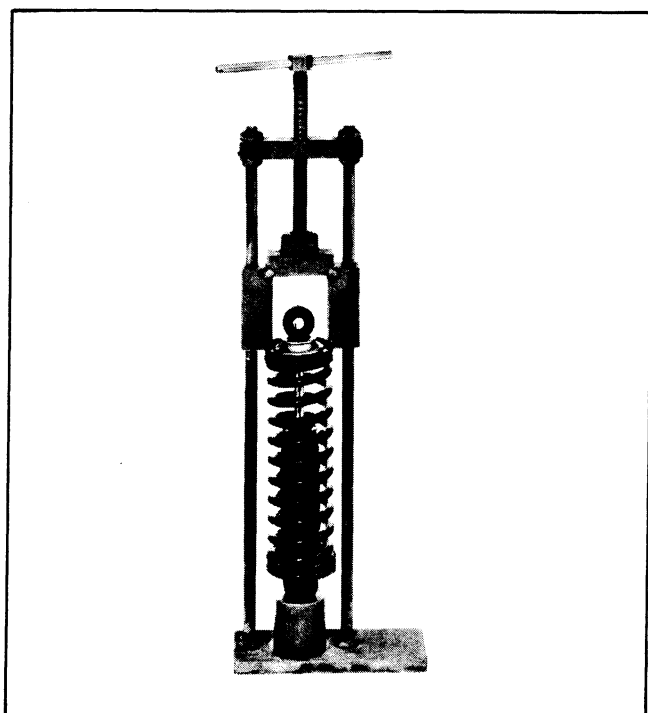

Figure 2-49. Using Shock Absorber Tool
Place shock absorber assembly in shock absorber tool, Part No. 97010-52A, in same position as when mounted in car. See Figure 2-49. Compress absorber spring enough to remove each half of upper spring retainer (1). Release spring compression and